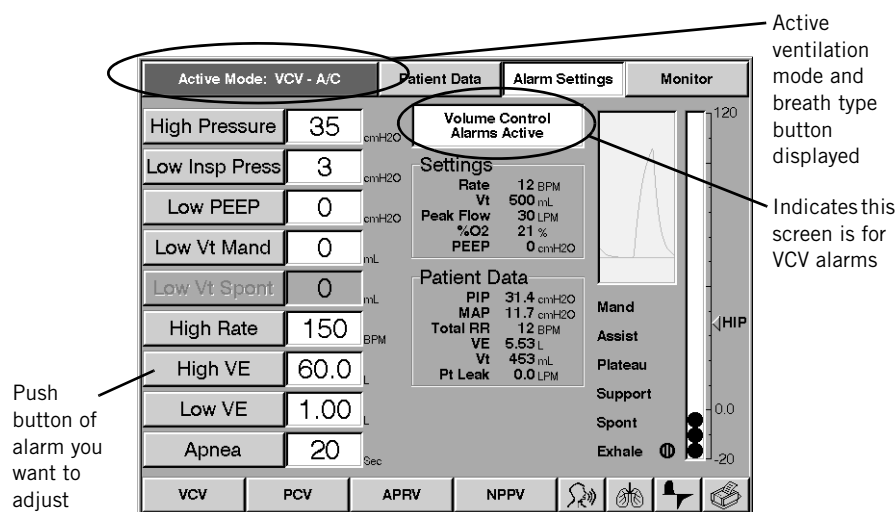

Figure 8-15: Setting Alarm Limits That Are Currently Active
1. Push ALARM SETTINGS. The ventilator displays the alarm limits for the currently active ventilation mode (Figure 8-15).